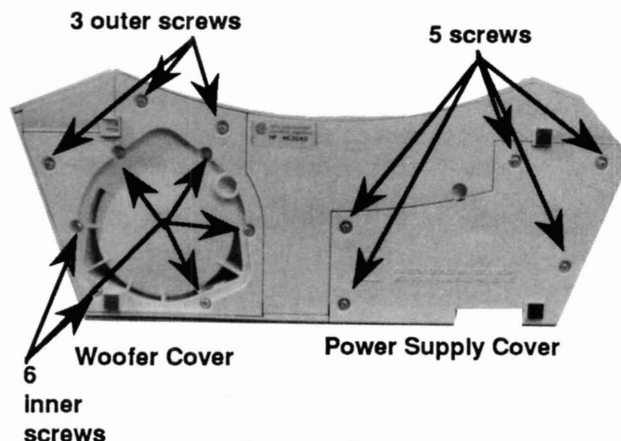

Figure 2
3. Woofer Cover Removal (Figure 2)
4. Woofer Cover Replacement (Figure 2)
5. Power Supply Cover Removal (Figure 2)
6. Power Supply Cover Replacement (Figure 2)